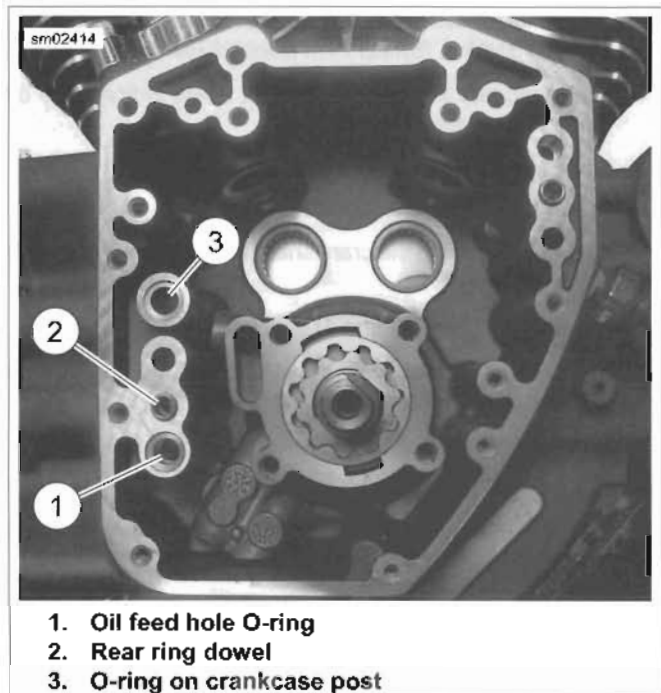

Figure 3-109. Oil Feed Hole
- See Figure 3-109. Apply a very thin film of SCREAMIN' EAGLE ASSEMBLY LUBE to **new** O-ring (1) and install in groove around oil feed hole.